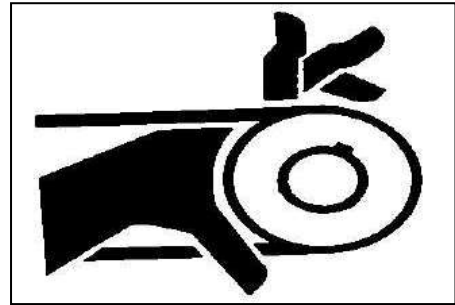

Figure 1.24
- 2) When work around the transmission parts, in order to avoid accident, prevent hand, foot, hair and clothes from entangling in the machine (As figure 1.24).